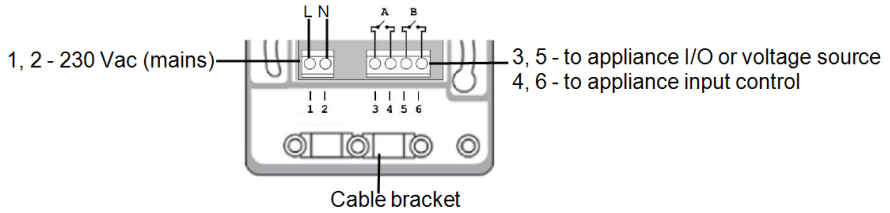
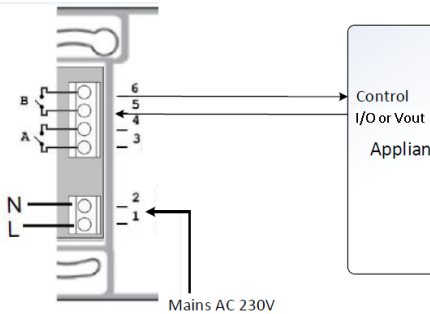
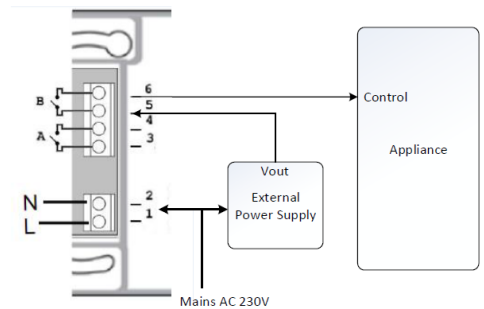

Figure 4: Smart Energy Relay connections
Figure 5: Connecting to appliance with internal voltage source (Vout)
Figure 6: Connecting to appliance with external voltage source
5. Connect the load wires to the terminal blocks (see *Figure 4*, *Figure 5* and *Figure 6*):
- Dry-contact 250V / 13A maximum (connections 3, 5) - to a dedicated voltage source from the appliance (see *Figure 5*), or an external power supply according to the input control specifications of the appliance (see *Figure 6*).